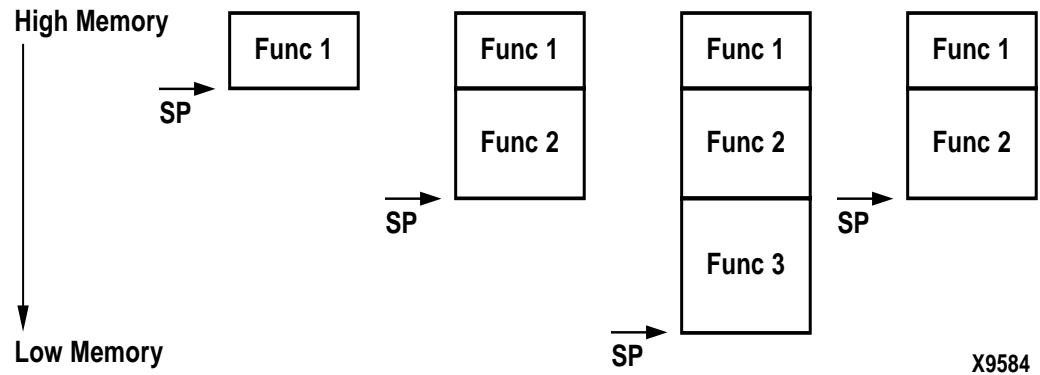

Figure 4-2: Stack Frame
Consider an example where Func1 calls Func2, which in turn calls Func3. The stack representation at different instances is depicted in Figure 4-2. After the call from Func 1 to Func 2, the value of the stack pointer (SP) is decremented. This value of SP is again decremented to accommodate the stack frame for Func3. On return from Func 3 the value of the stack pointer is increased to its original value in the function, Func 2.
Details of how the stack is maintained are shown in Figure 4-2.
Refer to Figure 4-2. The parameters for Func 2 are stored either in the registers R5 through R10 or on the stack frame allocated for Func 1.